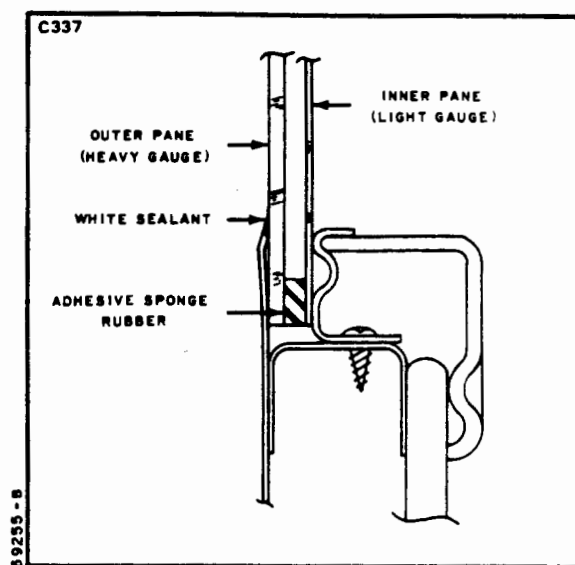

Figure 4-7. Side Window Installation, Double Pane (Typical)
b. Double Pane. (Refer to Figure 4-7.)